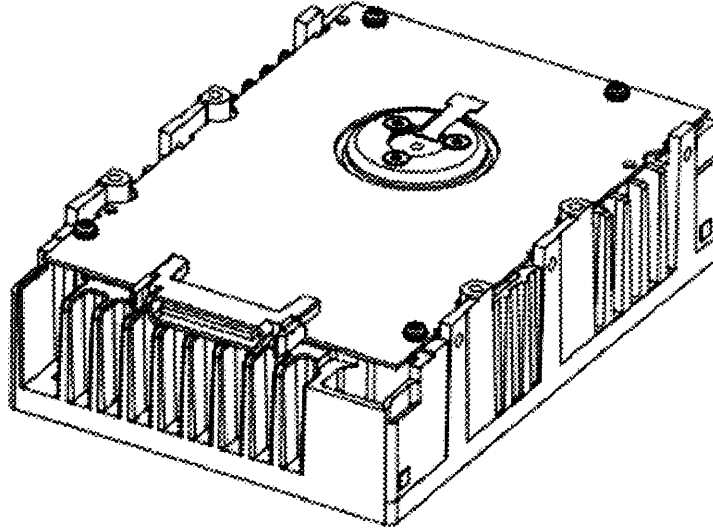

Figure 1.1 MAF3364FC outer view
An outer view of the IDD is given in Figures 1.1 and 1.2. The IDD is composed of the disk, head, spindle motor, hermetically sealed disk enclosure (DE) with actuator and air circulation filter, as well as read/write pre-amp with the print card unit (PCA) of the controller.